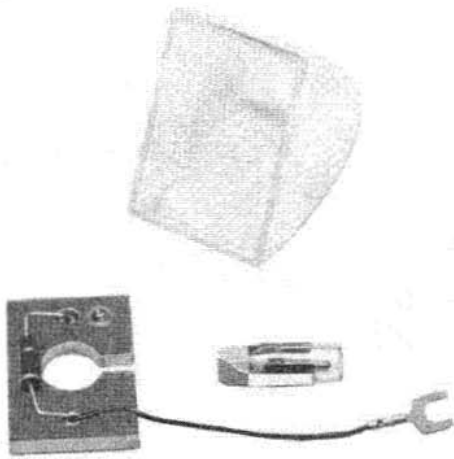

Fig. 5—D-180380 Kit of Parts
3.11 A combination of 1A indicator base and D-180380 Kit of Parts can be used in lieu of the 21C-49 "beehive" lens indicator. ♦The GE-K1D neon lamp glows when ringing current is applied.♦ Install the kit on the base per Fig. 5 and 6.